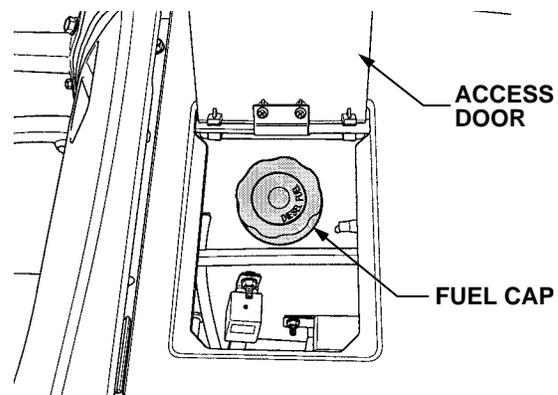

Figure 22
- The fuel fill cap is located beneath the small access door in the rearward end of the hood. Press downward on the rear of the door to open. See Figure 22.